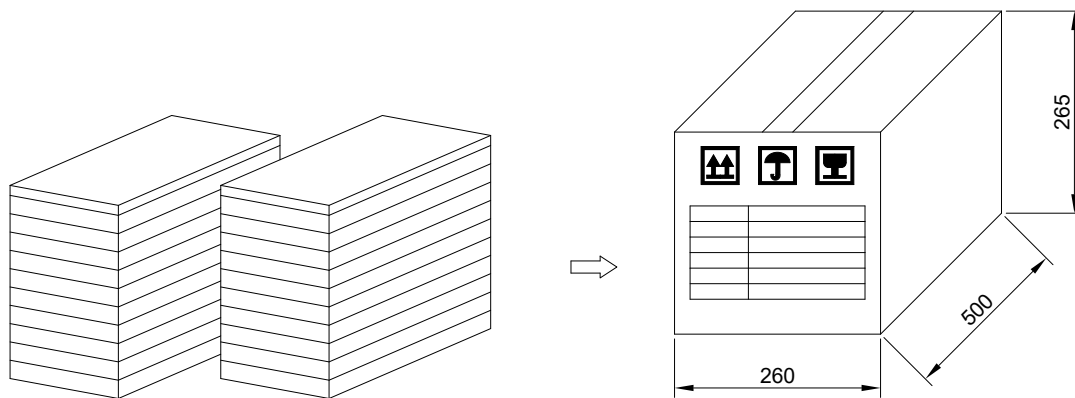

**Figure 4. HCM1205F Mechanical Layout**
- 4.3.1. Layout and Dimension : See Section 7, Figure 4